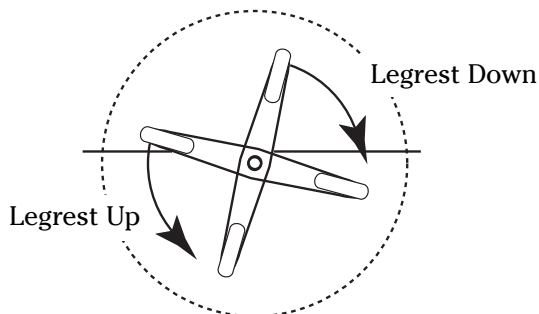

Figure 16
2. Squeeze the lever while pushing down on the back. Once the desired position is attained, release the lever to lock into position (See fig. 16).
2. Squeeze the release lever and lift the back up. Once the desired position is attained, release the lever to lock into position (See fig. 16).
Step on the front of the foot pedal, located on the side of the chair, until it locks in place (See fig. 16).